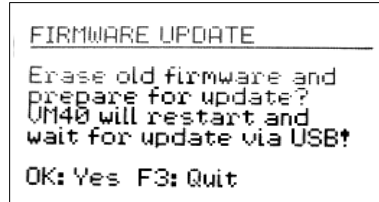

Figure 73: Start update
6. Within the VM40C “Device settings” select the option “Update firmware” and confirm the subsequent warning by pressing OK (Figure 73). By carrying out this step the old Firmware is deleted. The VM40C will then indicate that it is awaiting new Firmware data from the USB interface (“Waiting for update”).